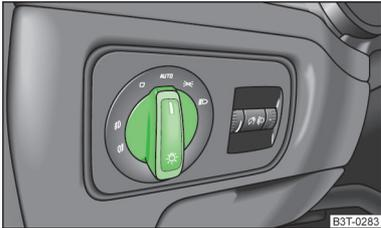

Fig. 51
If the light switch is in position **AUTO** » Fig. 51, the parking lights, low beam and number plate lights are switched on or off automatically.
- ✓ The light switch is in position **AUTO** » Fig. 51.
- ✓ The light switch is in position **AUTO** » Fig. 51 on page 70.